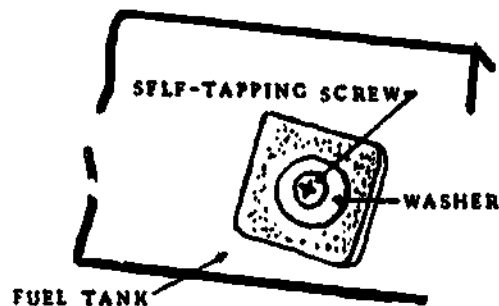

Fig 3-8. Repair for hole.
- (1) Small hole or leak. A self-tapping screw, a washer, and a piece of some material to use for a gasket are all you need to seal a small pin-size hole in the gasoline tank. Self-tapping screws can be found on window or windshield frames inside the cab. A piece of leather from a tarpaulin strap or rubber from a tire makes a good gasket. Figure 3-8 shows how you place the washer under the screw's head and force the screw through a hole made in the gasket material down through the hole in the tank. The screw is then tightened securely. A leak in the seam of the fuel tank can be stopped by rubbing soap into the crack.